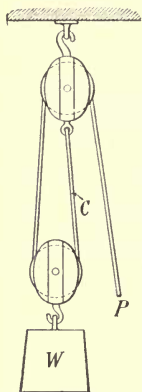

FIG. 18.—Block and Tackle.
Figure 18 shows the arrangement of a single pulley block or shop tackle, consisting of one fixed pulley in the upper block and a movable one in the lower block. One end of the rope is fastened to the upper block. This arrangement is merely a single movable pulley with its rope extended up and around another pulley, thus enabling the operator to pull down when raising the weight. The upper pulley therefore does not affect the amount of the force, but merely changes its direction from a pull-up to a pull-down on the rope. The advantage of this type of block and tackle is that the force is decreased one-half, while the space the worker pulls through is twice that of the movement of the weight.  $W$  is 100 lbs.; the worker has only to lift 50 lbs.; to raise the weight 1 ft. he must draw up 2 ft. of rope, that is, one on each side of the pulley. Without the pulley he would have 100 lbs. to raise 1 ft.
1. How much pull at  $P$  would be required to lift 150 lbs. at  $W$ ? (Fig. 18.)